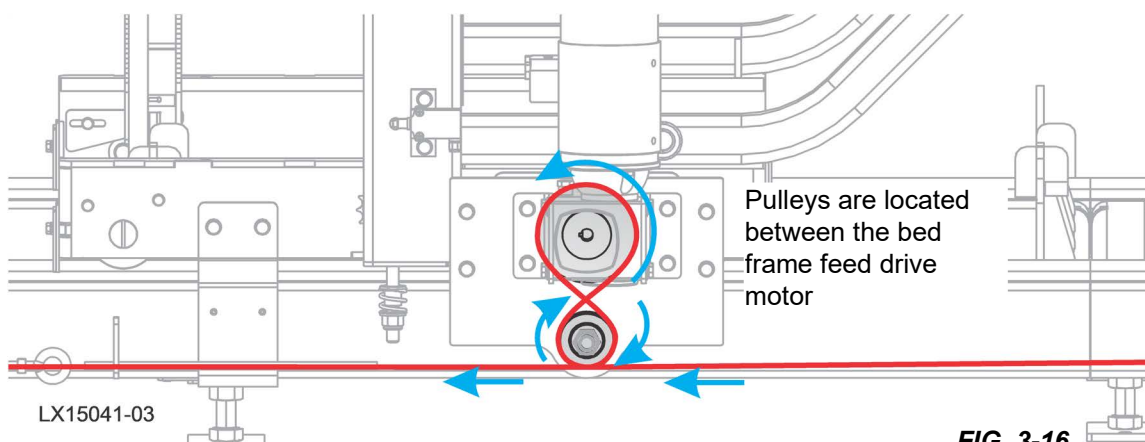

FIG. 3-16
4. Thread the feed rope through the pulleys of the feed drive assembly in a figure 8 pattern as shown in Figure 3-16.